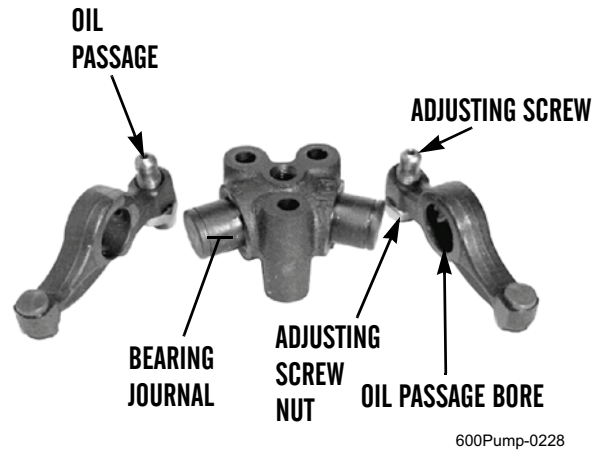

Figure 4. Inspection of Components.
4. Check bearing journals, adjusting screws, rocker arm contact surfaces, and bores for wear (Figure 4). Replace rocker arms, rocker arm components, or rocker arm bracket if necessary.